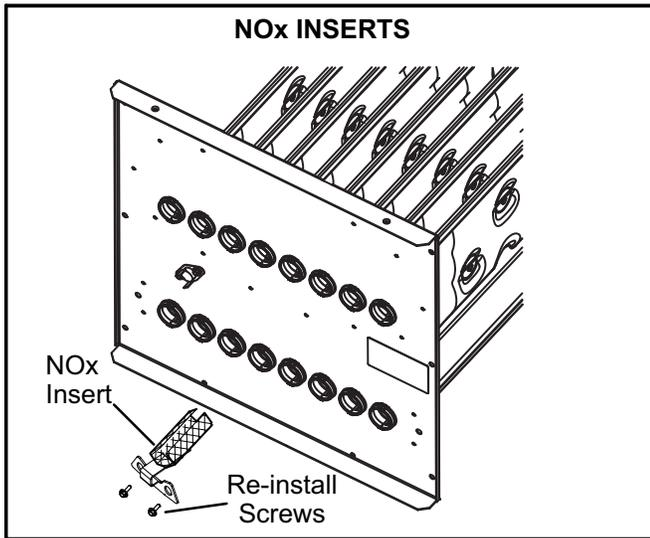
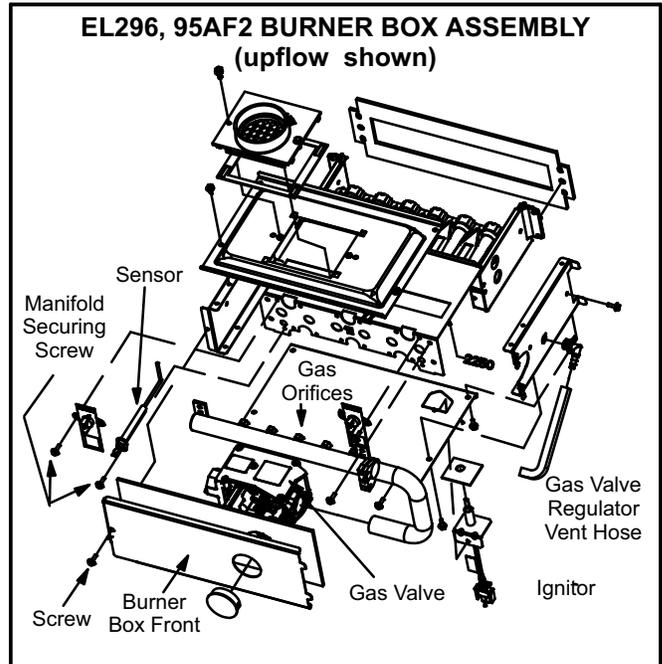

FIGURE 1
FIGURE 2
- 4 - Remove the screw that secures the burner box front cover and remove front cover (if equipped). See figures 2 and 3.
- 7 - **EL280(X) and SL280(X) NOx units being converted from natural to LP /Propane.**
- b - Remove the screw which secures each of the NOx inserts to the clamshell. **Remove the NOx inserts and reinstall the screw. See figure 1.**